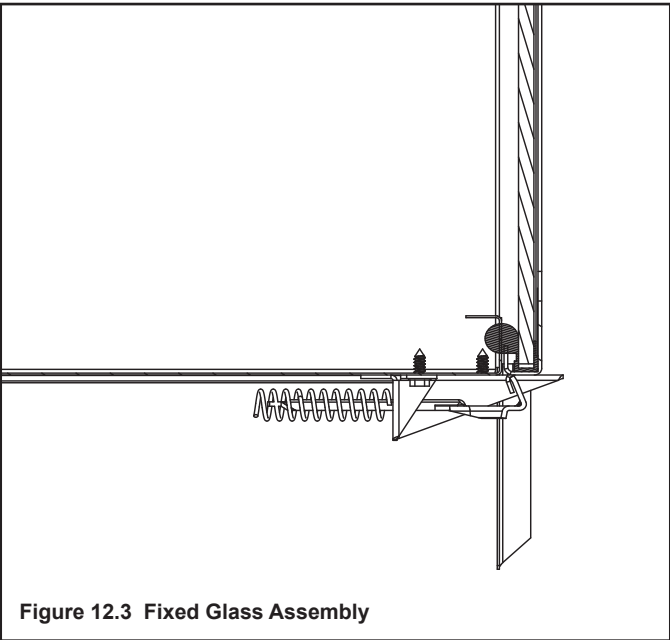

Figure 12.3 Fixed Glass Assembly
- The glass assembly fastens to the fireplace in four places. Four of the fastening mechanisms are spring-loaded glass latches. An example of the glass latch is shown in Figure 12.3.